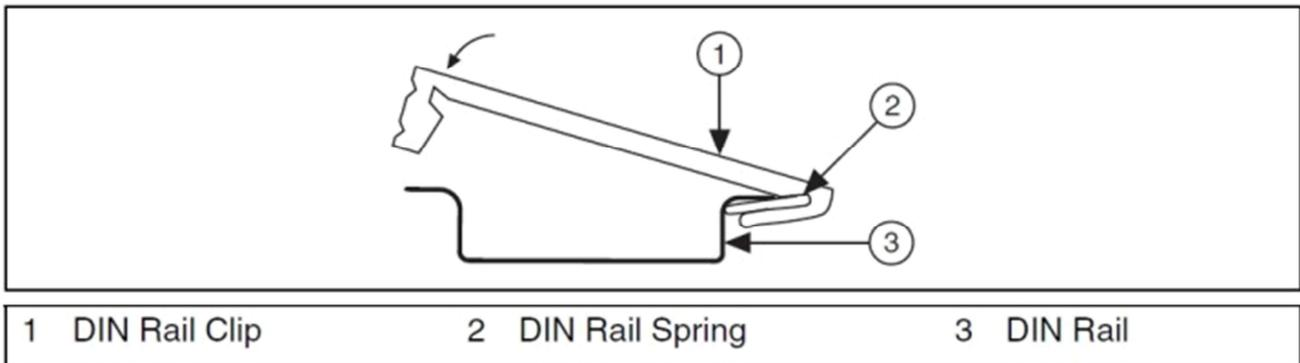

Figure 1. DIN Rail Clip Parts Locator Diagram
2. Clip the device onto the DIN rail as shown in Figure 1 and 2.